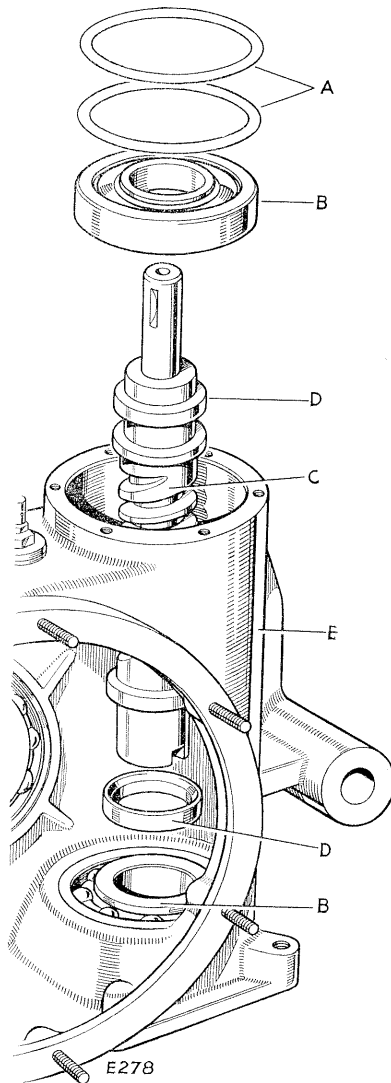

Fig. T-34—Worm shaft fitting
3. Fit one of the worm shaft bearings on to the shaft, at the keyway end, and position the other shaft bearing into the winch casing at the hydraulic pump end, ensuring that it is squarely located. Note carefully that these are thrust bearings, and that they must be fitted the correct way round, or excessive worm shaft backlash will be present. See Fig. T-34, item D, upper and lower, for correct fitting.